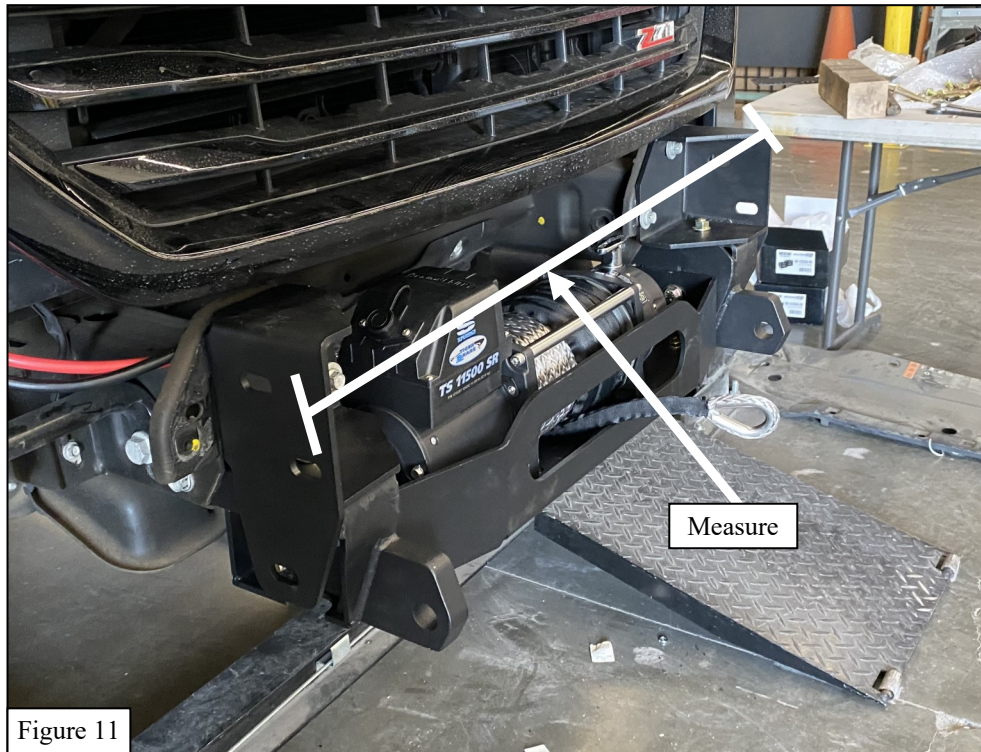

Figure 11
10. Measure the **outer** distance of the brackets. Make sure the distance matches the **inner** distance on the bumper mounting locations. (about 36 inches). See **Figure 11** for reference.